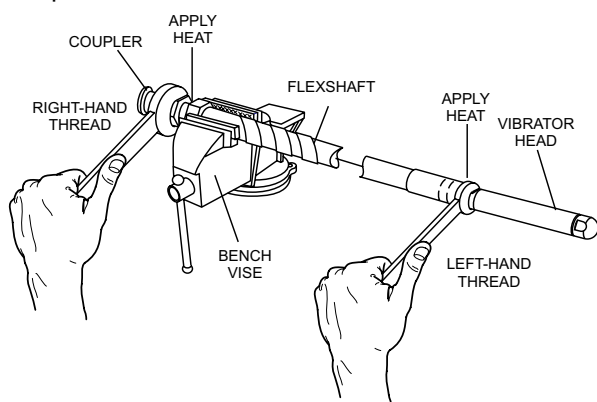

Figure 7. Removing Wire Core
1. Using a bench vice and wrench, remove coupler from flexshaft as shown in Figure 7. Please note threads are **right-handed** on this side of the flexshaft (drive motor end).